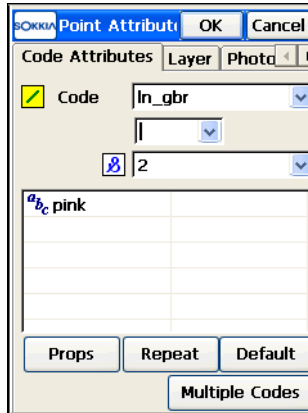

Figure 6-3. Point Attributes
- The field, marked by the  sign (Figure 6-3 on page 6-2), is used for entering a string to generate a line for a Code Style of Line or Area. Code Style is set when editing the code.